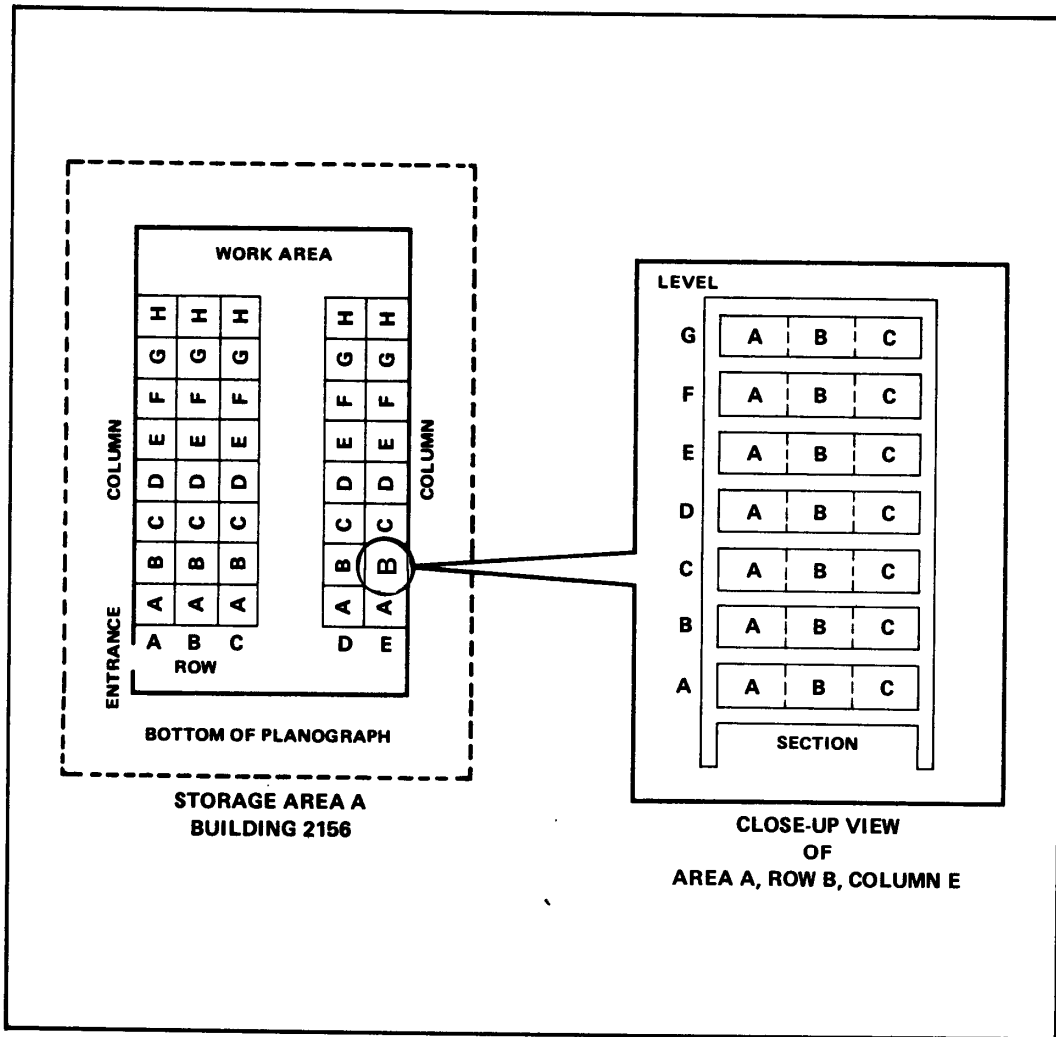

Figure 6-4. Planograph with levels and compartments or sections labeled
- *Step 6.* Label each compartment or section of the levels. You may have more than one section per level. Label each section from left to right. Figure 6-4 shows how to label levels and compartments or sections.